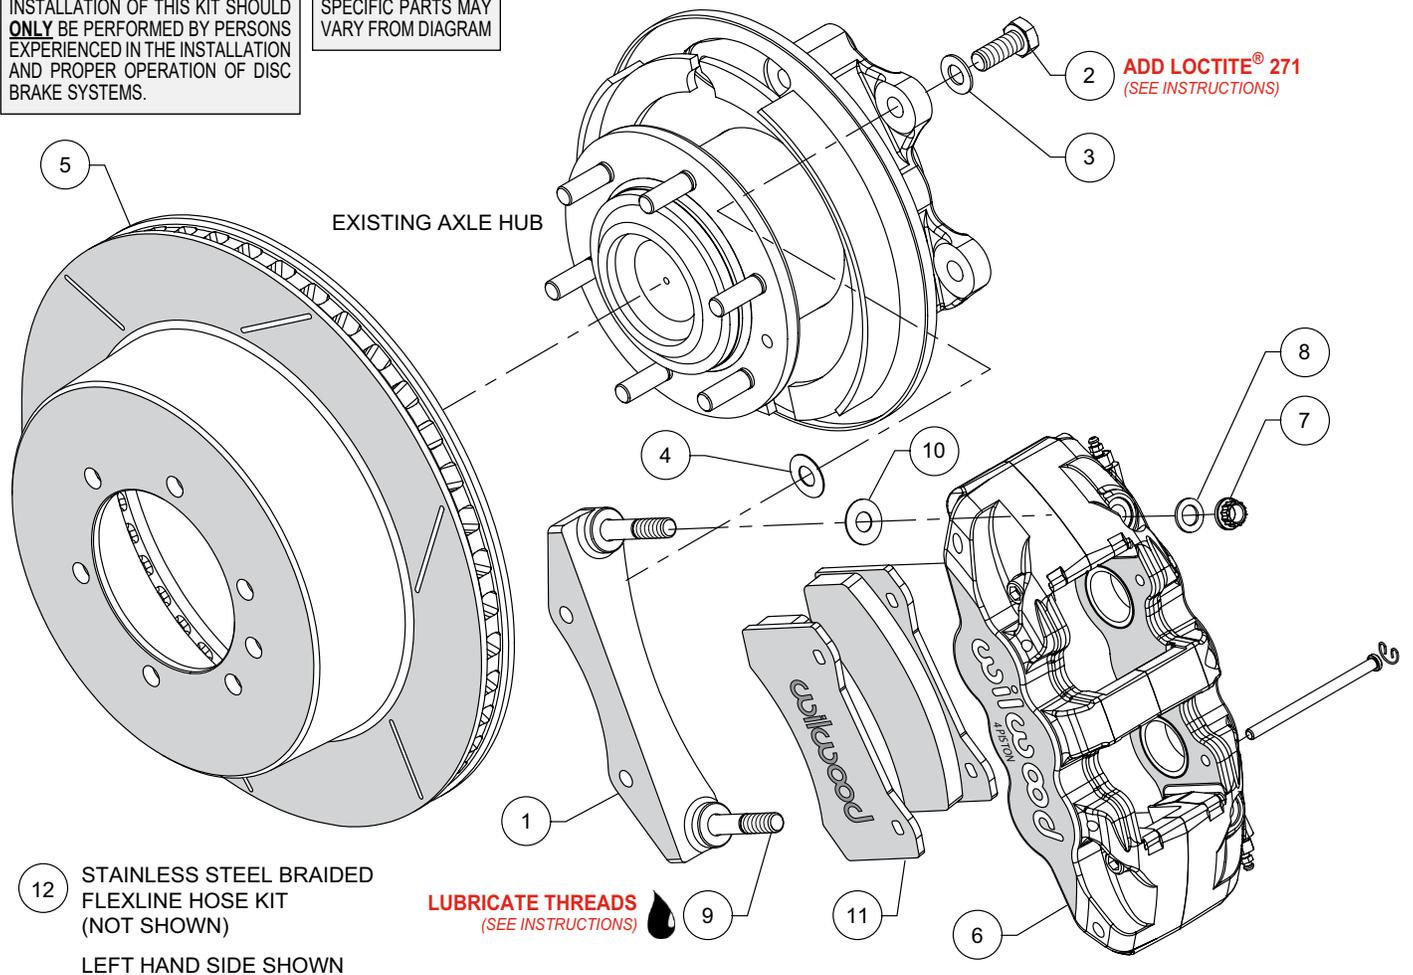

Figure 1. Typical Installation Configuration
**NOTE:** Numbers in parenthesis refer to the parts list and Figure 1 on the preceding pages.
- The caliper mount bracket (1) should initially be installed with clean, dry threads on the mounting bolts. Orient the bracket as shown in Figure 1 and Photo 2, and install using bolts (2) and washers (3). Initially place one .033 thick shim (4) on each bolt between the bracket and upright, Figure 1. Temporarily tighten the mounting bolts. **NOTE:** The bracket must fit squarely against the mount bosses on the upright. Inspect for interference from casting irregularities, machining ridges, burrs, etc. Later, after the caliper alignment has been checked, the mount bolts will be secured using red *Loctite*® 271.
- Slide the hat/rotor (5) onto the axle hub, Photo 3. **NOTE:** The hat must fit flush against the axle hub flange or excessive rotor run out may result. Install three lug nuts (finger tight) to keep the hat/rotor assembly in place while continuing with the installation.
- Lubricate the caliper mounting studs (9) with lightweight oil. Initially place one .030" thick shim (10) on each stud as shown in Figure 1 and Photo 4. Mount the caliper (6) onto the bracket (1) using lock nuts (7) and washers (8), Figure 1. Temporarily tighten the lock nuts and view the rotor through the top opening of the caliper. The rotor should be centered in the caliper, Photo 5. If not, adjust by adding or subtracting shims (4) between the bracket (1) and the upright. Always use the same amount of shims on each of the two mounting bolts. Once the caliper alignment is correct, remove the bracket mounting bolts (2) one at a time, apply red *Loctite*® 271 to the threads, and torque to 60 ft-lb.
- Remove the caliper (6), then remove the two pad retaining pins from the caliper by carefully popping out the pin retaining clips and sliding out the pins. Insert the brake pads (11) into the caliper from the bottom, Figure 1 and Photo 6. With the friction material facing the rotor, secure the brake pads in place with the pad retaining pins and clips, Photo 7. Reinstall the caliper onto the caliper mounting bracket and temporarily tighten the lock nuts. Check that the top of the brake pad is flush with the outside diameter of the rotor, Photo 8. If not, adjust by adding or subtracting shims (10) between the caliper and the bracket. After the caliper pad height is set, torque the caliper lock nuts (7) to 47 ft-lb.